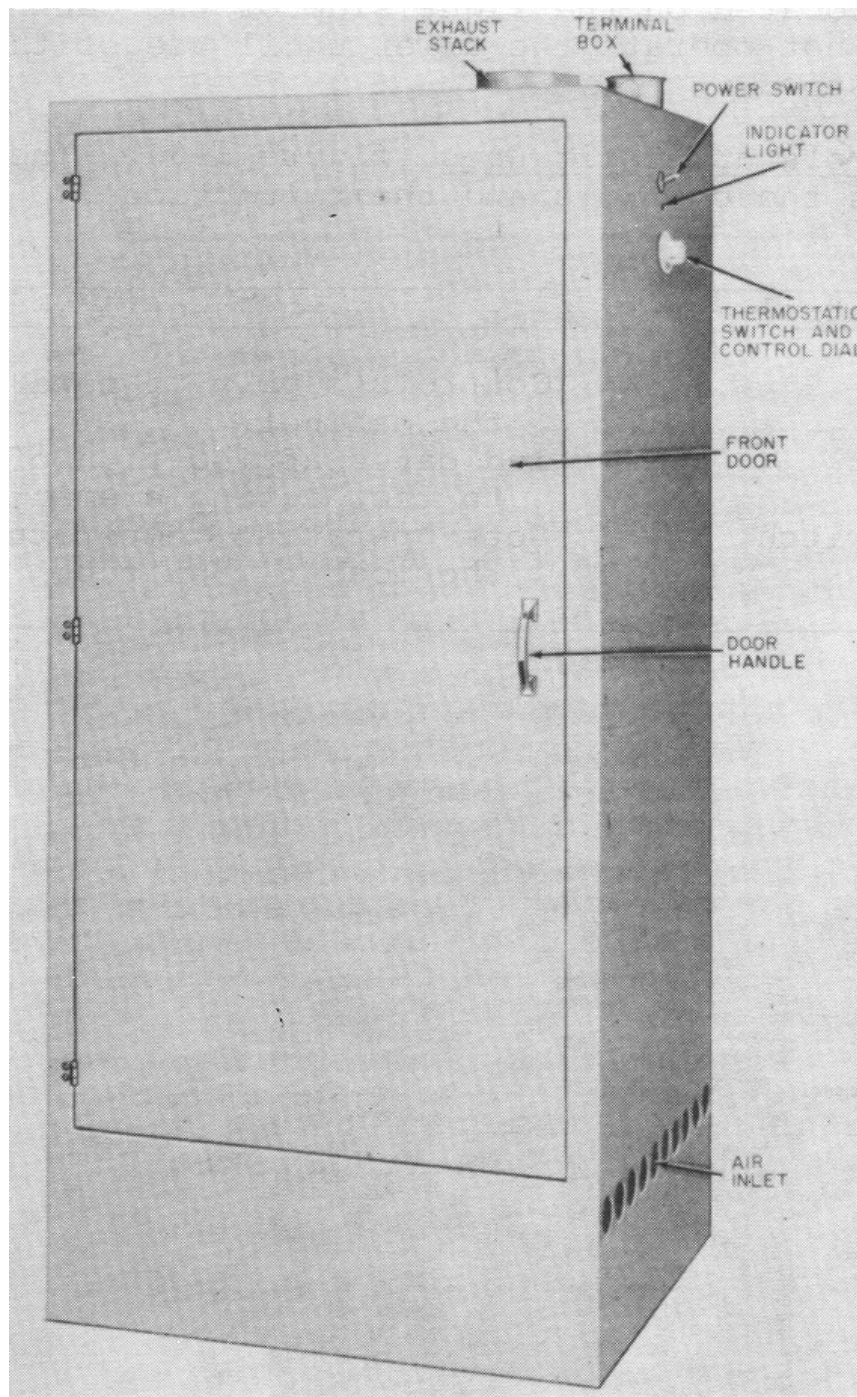
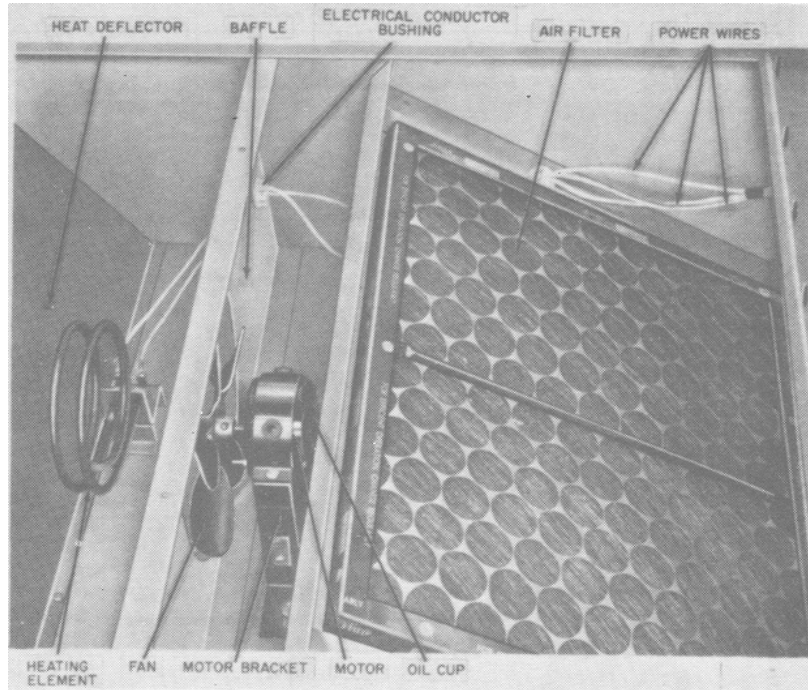

FIGURE 3-5. Front view of cabinet of Photographic Film Drier EL-4(1).
FIGURE 3-9. Air filter, motor, fan, and heating element installed.
Photographic Film Drier EL-4(1) (figure 3-5) is a thermostatically controlled metal cabinet that dries roll and sheet (cut) photographic film. It is used in a film laboratory and is located as close as possible to the processing equipment.
a. General. All controls provided for operation of the drier are located on the right side of the cabinet (figure 3-5). Do not operate the drier until use of these controls is understood.
a. Move the power switch (figures 3-5 and 3-6) to the ON position. The sounds of the motor and fan should be heard.
(1) Remove the two screws that hold the bottom pan to the metal baffle (figure 3-9).
(2) Lift the bottom pan and remove it from the cabinet.
(3) Lift the air filter up and out of the bottom of the cabinet.
(4) Tap the dirt out of the air filter. If a vacuum cleaner is available, use the suction to remove the dirt.
(5) Return the air filter; be sure that the dirty side faces the air inlet holes (figure 3-5).
(6) Replace the bottom pan.
The motor is the only component that requires lubrication. Two or three drops of oil (OE-10) in the oil cup on each end of the motor (figure 3-9) at six-month intervals, will provide adequate lubrication for the motor bearings.
Heating element.	Be sure that the heating element (fig. 3-9) and electrical connections are securely attached and are clean.